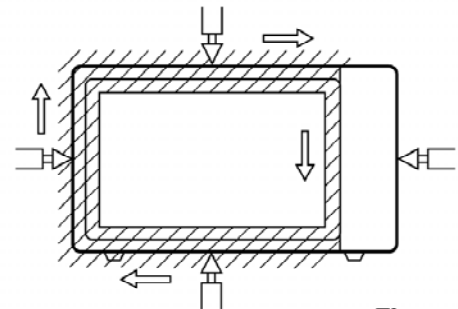

Figure 6
- (1) Pour 275±15cc of 20±5 °C water in a beaker which is graduated to 600 cc, and place the beaker in the center of the oven.
- (2) Set the energy leakage monitor to 2450 MHz and use it following the manufacturer's recommended test procedure to assure correct result.
- (3) When measuring the leakage, always use the 2 inch (5cm) spacer supplied with the probe.
- (4) Operate the oven at its maximum output.
- (5) Measure the microwave radiation using and electromagnetic radiation monitor by holding the probe perpendicular to the surface being measured. (See Figure 6)